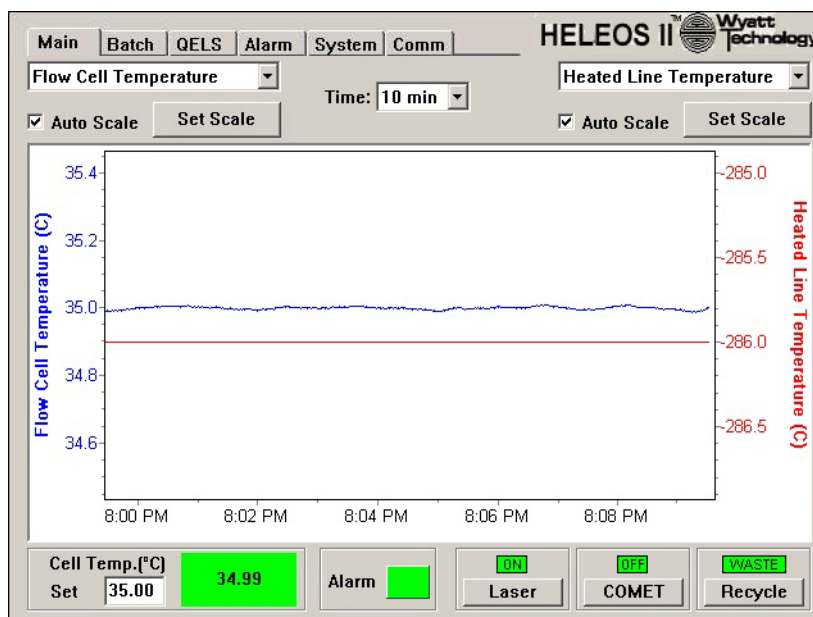

Figure 2-5: Wyatt instrument set to Waste
3. Once **Recycle** is selected, press the enter button and the tab should switch to **Waste**. (see Figure 2-5).